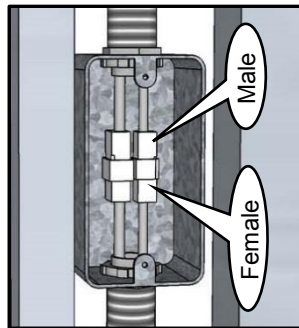

Figure 20
- On 2-stop dumbwaiters, one set of wires has female connectors and the other set has male connectors. Match up each male and female connector and seat them firmly together. (see Figure 20)